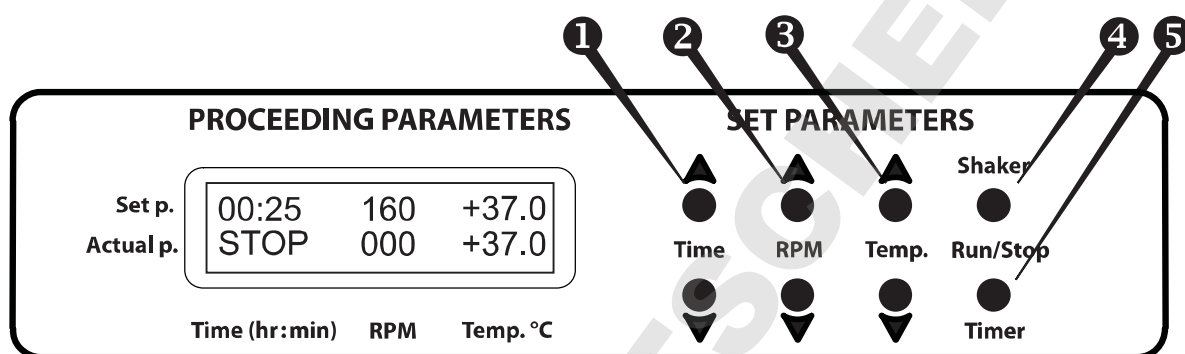

Fig.2 Control panel
- 4.3. Using the ▲ and ▼ **Time** keys (Fig. 2/①) set the required working time interval in hours and minutes (increment - 1 min). Pressing the key for more than 3 sec will increase the increment.
- 4.4. Using the ▲ and ▼ **RPM** keys (Fig. 2/②) set the required shaking speed (increment 10 RPM). Pressing the key for more than 3 sec will increase the increment.
- 4.5. Using the ▲ and ▼ **Temp.** keys (Fig. 2/③) set the required temperature (increment 0.1°C). Pressing the key for more than 3 sec will increase the increment.
- 4.7. Press the **Shaker-Run/Stop** key (Fig. 2/④). The platform will start rotating and the timer indicator will start counting up the time interval (with 1 min precision).
Caution! At the end of the set time period the platform movement is stopped automatically, but the heating can be stopped ONLY manually by reducing the temperature using the ▼ **Temp.** key (Fig. 2/⑤ – the lower key) till the OFF sign appears in the upper line of the display.
- 4.10. The timer can be reset during operation if required. Press the **Timer-Run/Stop** key twice (Fig. 2/⑥) (first – to stop the timer, second – to restart the timer).